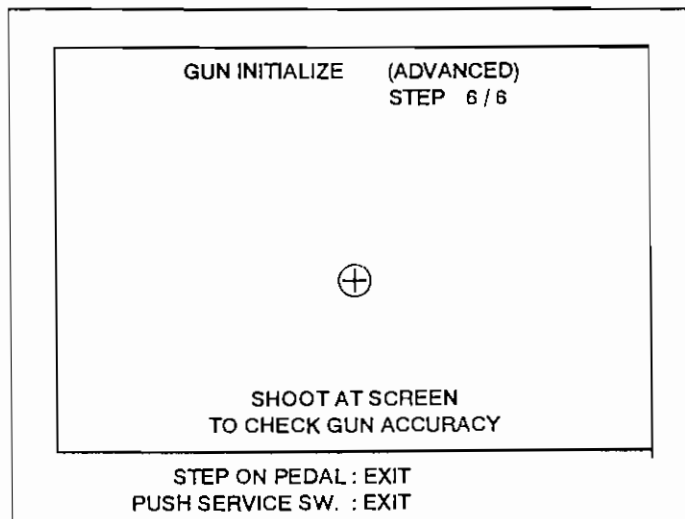

Fig. 6.22 Gun Initialization Screen 8
16) Perform initialization up through STEP 5/6 then press the service switch to move to the screen for STEP 6/6. (Fig. 6.22)